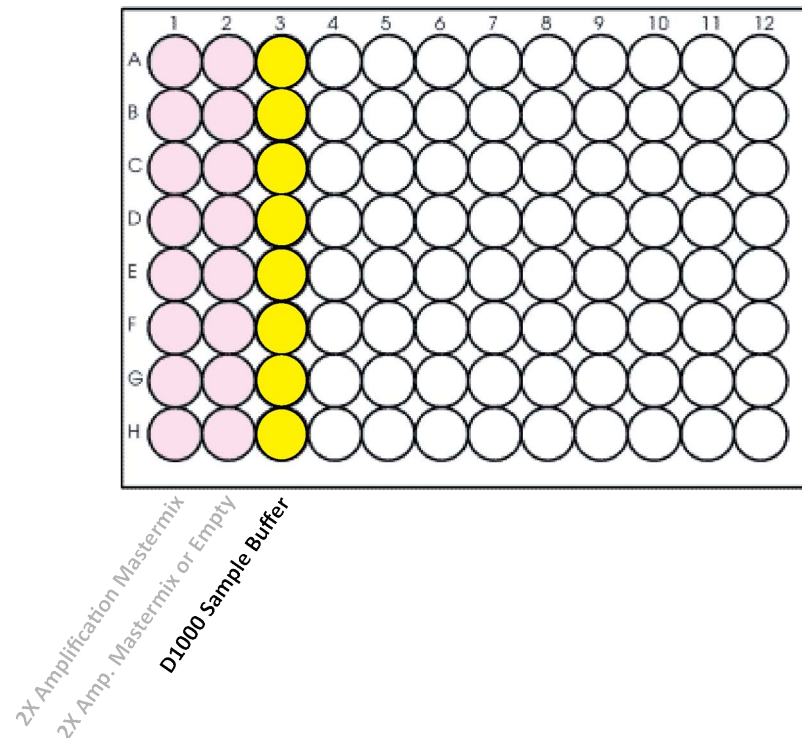

Figure 7 Configuration of the Sample Buffer source plate for protocol TS_D1000. Columns 1–2 were used in a previous protocol.
- 5 Using the same processing plate (Eppendorf twin.tec or Armadillo) that was used for the 2X Amplification Master Mix source plate, prepare the Sample Buffer source plate at room temperature. Add the volume of D1000 Sample Buffer indicated in Table 45 to each well of column 3 of the plate. The final configuration of the Sample Buffer source plate is shown in Figure 7.